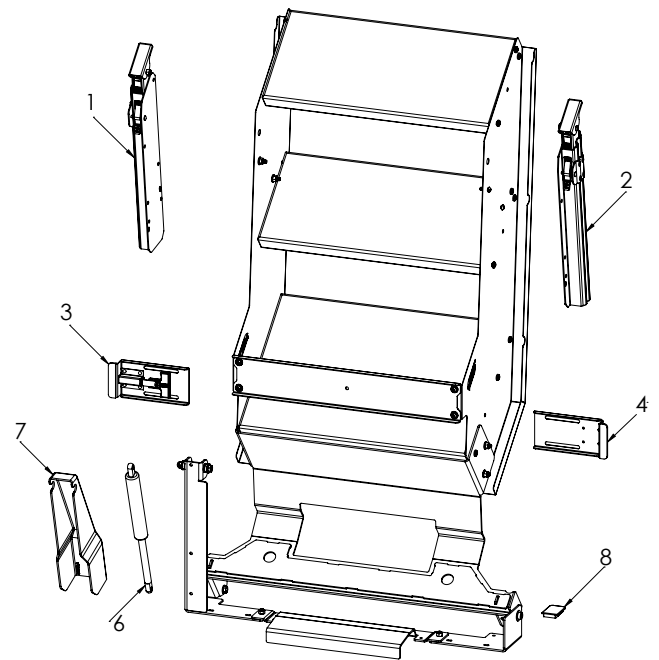

Figure 1
1. Open the RV entry door fully and set the stair assembly over the RV threshold as shown in **Figure 1**.
4. A total of ten (10) #10x1¼ screws must be used to secure the product. Pan head, truss head or flat head screws are permissible to secure brackets to RV, but pan head or truss head screws can be useful in slotted holes to allow small adjustments of the product's position. Ensure screw head diameter of 5/16" or larger is used. Washers may also be used.
Adjust brackets by loosening bolts shown in **Figure 1**, sliding brackets in or out as needed and retightening bolts. The ideal adjustment is achieved when maximum surface area of each stop bracket bears on the door flanges and the slide latch actuates properly to prevent the staircase from unintentionally pulling free from the door flange.